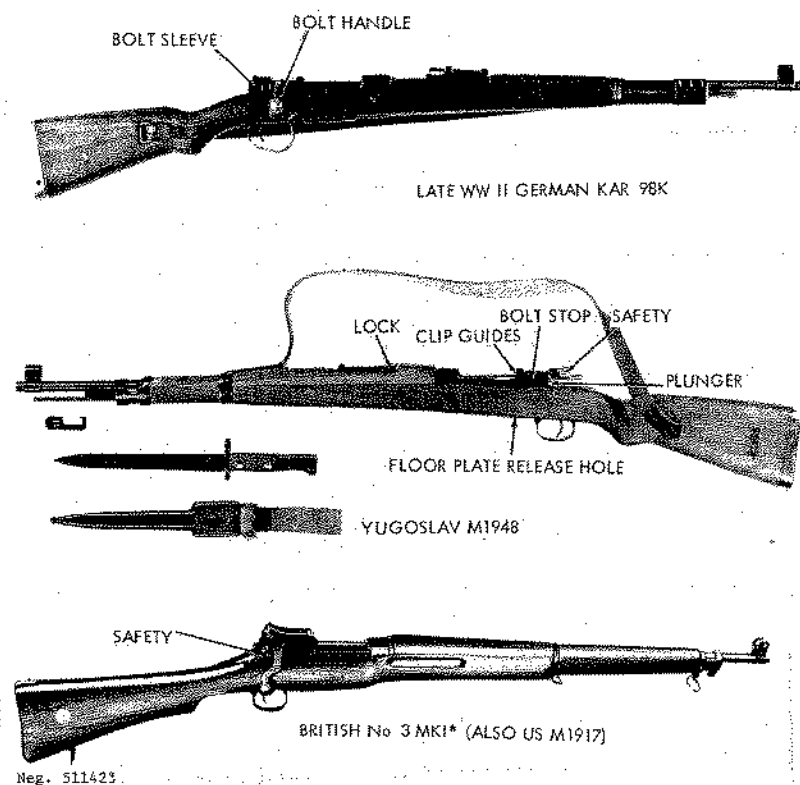
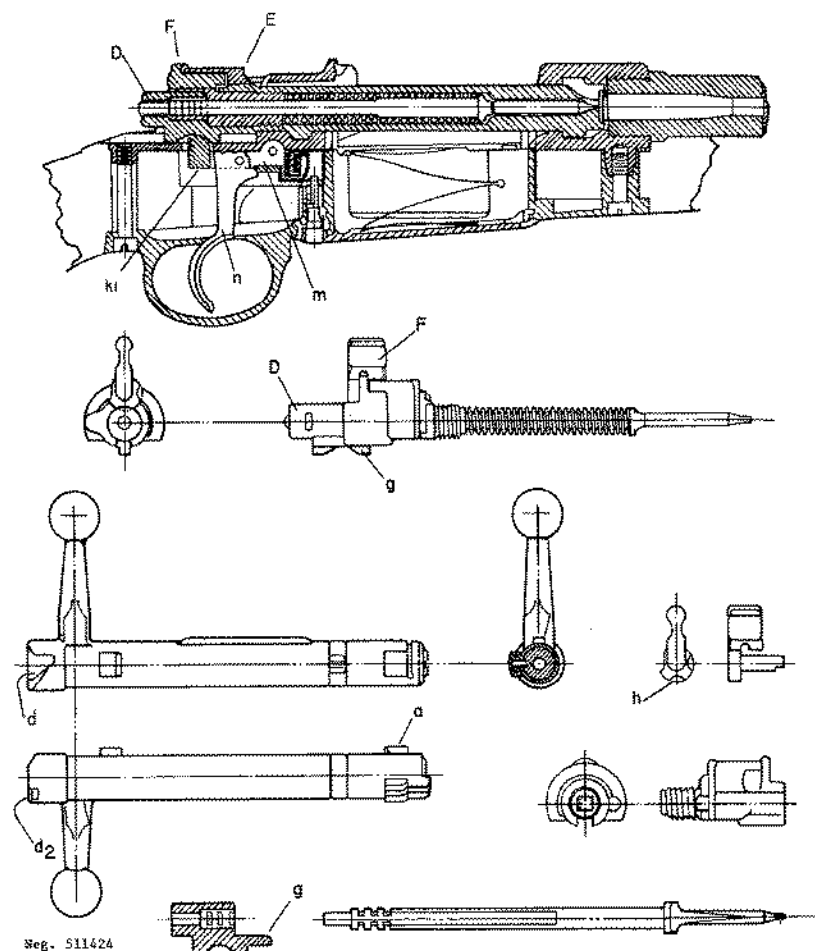

Figure 124. Typical Mauser rifles.
Figure 125. Mauser rifle section.
a. The Mauser Model 1898 rifle (fig 124) was the final refinement of a series of German rifles whose basic design began in 1871. The 1898 was developed just before the turn of the century, and after final improvements (in the early 1900's), its use spread throughout the world. There are few nations who did not use the 1898 or a rifle whose design was based on it. The prime producer of this rifle was Germany, but many other nations produced it under license. Belgium, Spain, Czechoslovakia, Poland, China, and Yugoslavia were the major non-German producers; however, the Mauser company exercised close supervision over production, and as a result, most of these rifle parts are interchangeable regardless of country of manufacture. This results in some current 1898's bearing markings of several countries. In addition to true 1898's, variants such as the US M1903 and 1917 rifles and the British No. 3 Mark 1* are based on the 1898 design. The final model of the original 1898 Mauser is the Yugoslav M1948 rifle (fig 124).
a. Open the bolt by turning the bolt handle (fig 124) up as far as possible; then pull the bolt fully rearward.
b. Load the magazine by placing a charger clip of five cartridges into the clip guides (fig 124). Hold the thumb as close as possible to the charger clip and press the cartridges down into the magazine. If desired, remove the clip and save it for reuse; otherwise, the forward movement of the bolt will expel it. If clipped ammunition is not available, place individual cartridges on the magazine follower and press them down until they roll sideways under the feed lips. Repeat this action until five cartridges have been loaded into the magazine. To prevent damage to the extractor, always load by inserting the cartridges, even single ones, into the magazine; never load cartridges directly into the barrel.
d. If desired, make the rifle safe by swinging the safety (fig 124) to the right; this locks the firing pin and bolt. On US M1917 and British No. 3 Mark 1 (fig 124) rifles, rock the safety to the rear.
e. To fire the weapon, swing the safety to the left, or press it forward (US M17 type), set the sights for the desired range by pressing the locks (fig 124) and sliding the bar along the sight leaf until the top of the bar is aligned with the number on the leaf corresponding to the range in hundreds of meters. (Lift the leaf up before doing this on the M17 or No. 3 rifles.) Using a normal sight picture, aim and squeeze the trigger. The rifle will fire one shot.
a. When disassembling the weapons, unload (para 149g) but do not pull the trigger. On an M17 or No. 3, open the bolt, set the safety to the rear, and close the bolt as far as possible. Insert a coin between the firing pin nut and bolt sleeve. On all other rifles, leave the safety in the vertical position. Open the bolt and press the bolt stop (fig 124) outward. Hold the bolt stop out and pull the bolt from the rifle.
b. On the left side of the bolt sleeve (fig 124) there is a plunger (not present on M17 or No. 3 rifles); press it in. Unscrew the bolt sleeve and pull the firing mechanism from the bolt.
c. Using the point of a cartridge, press in on the floor plate catch through the hole (fig 124) in the floor plate.
b. As the bolt handle is turned upward, a cam in the rear of the bolt (d, fig 125) forces the firing pin nut and firing pin rearward, compressing the firing spring. The root of the handle also cams against the receiver to provide powerful leverage for initial extraction of the fired cartridge. The firing pin unit has a lug on its underside which overrides the sear when the handle is turned fully up.
d. The zigzag magazine spring has forced a fresh cartridge up, under the receiver feed lips. As the bolt is shoved forward, it pushes the cartridge out of the magazine, and the cartridge rides up the bolt face under the extractor. The locking lugs (a, fig 125) are resealed in their abutments in the receiver by rotating the bolt handle downward.
e. The trigger (n, fig 125), is pinned to the sear (m, fig 125), and has two humps on its top where it bears against the bottom of the receiver. When the trigger is pressed, the front hump (closest to the pin) acts as a lever to move the sear down. At this stage, the trigger pull has been very light, but as the second hump, at the rear of the trigger contacts the receiver, a definite stop is felt and increased trigger pressure is necessary to completely disengage the sear from the lug on the firing pin nut. When these disengage, the firing spring drives the firing pin forward and fires the cartridge.
f. This rifle has two safety features: the manual safety and an automatic safety. The manual safety (fig 124) is operated by swinging it to the left; this interposes a solid portion of the safety (f, fig 125) in front of the firing pin nut and cams the nut slightly rearward, off the sear. At the same time a section of the safety shaft rotates into a fore-and-aft cut (d2, fig 125) in the rear of the bolt; this locks the bolt closed. The automatic safety is the cocking cam (g and d, fig 125) in the bolt; if the bolt is not completely locked, the cam on the firing pin nut will force the bolt closed by engaging the cam in the bolt. These cams prevent the firing pin from going completely home unless the bolt is rotated to a fully locked position.